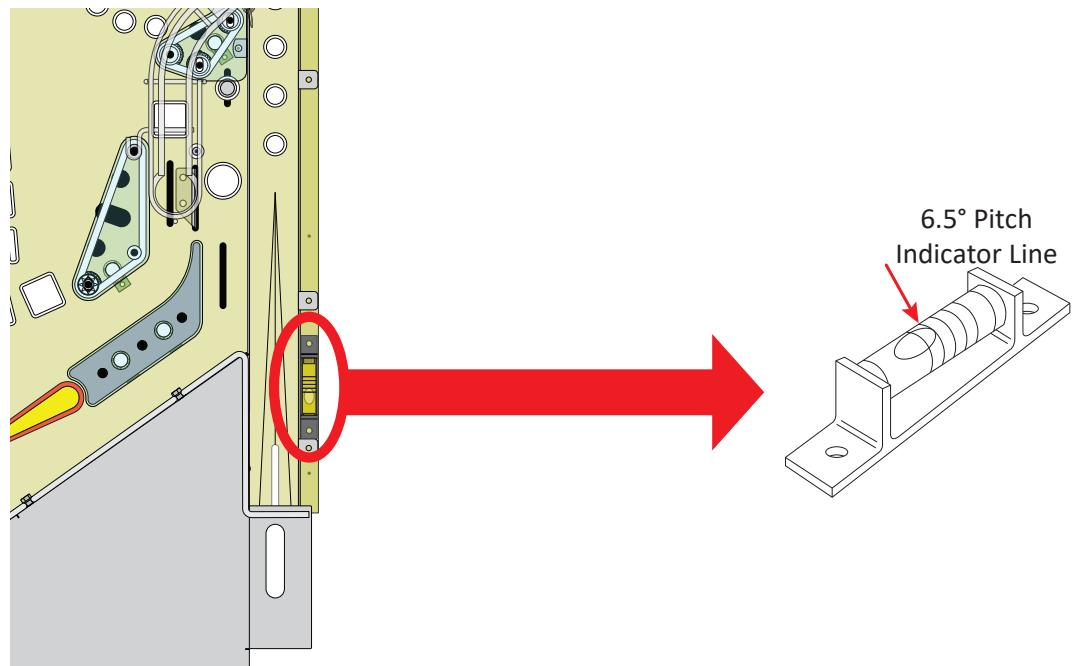

Figure A17. Playfield pitch bubble level.
19) A bubble level (figure A17) is attached to the playfield's right woodrail, next to the ball shooter lane, to indicate the optimal pitch of the playfield (back-to-front) for game play. Adjust the levelers and tightening nuts on the game's four legs until the top of the bubble in the level is just touching the second reference line, as shown in figure A17. This will provide a playfield pitch angle of 6.5°.